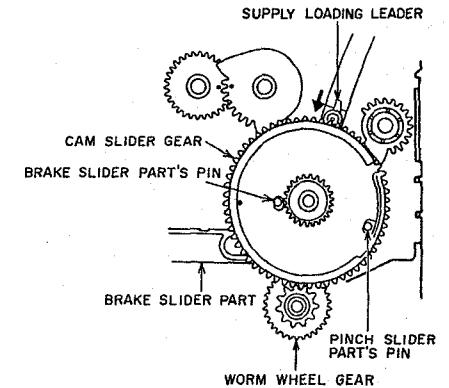

Fig. 3-9
- 1) Attach the WORM WHEEL GEAR as shown in Fig. 3-9.
- 2) Set the CAM SLIDER GEAR and adjust the position of the BRAKE SLIDER PART and PINCH SLIDER PART so that both pins appear through the holes on the CAM SLIDER GEAR as shown in Fig. 3-9. When inserting the CAM SLIDER GEAR onto its shaft, press the SUPPLY LOADING LEADER slightly in the direction of the arrow to make installation easy.